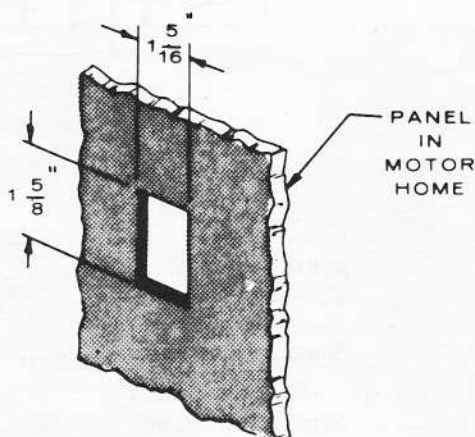

FIGURE 17. MOTOR HOME CUTOUT FOR 300-0985 STANDARD CONTROL PANEL
1. Select control location. Using Figure 17 or 18 as a guide, drill screw holes and cut hole to accommodate remote switch in dash panel.